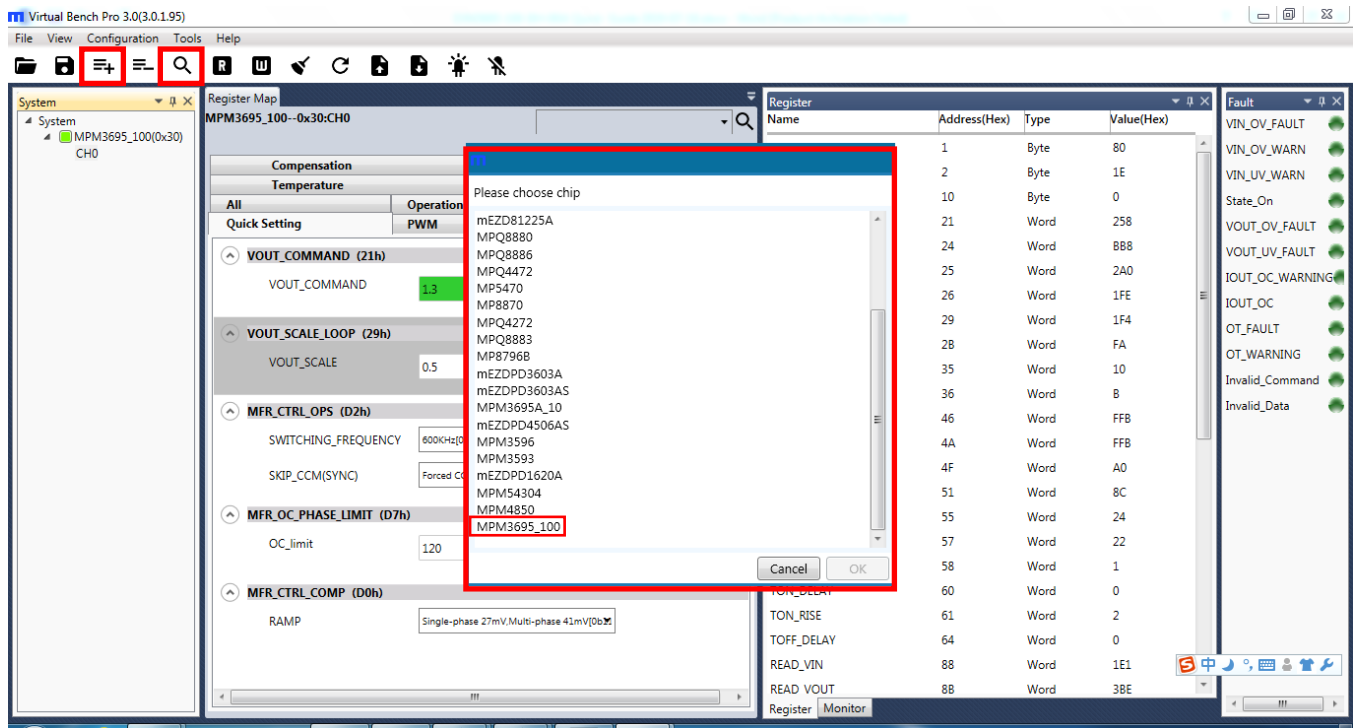

Figure 9: Selecting the MPM3695-100
1. Click on the icon denoted with three horizontal lines and a (+) sign (see Figure 9). Choose the MPM3695-100 from the list.
2. Click on the magnifying glass icon, then search for the I²C address (see Figure 9).
4. Click "Change chip address," then enter the value of the slave (0x). The module should be manually added (see Figure 9).